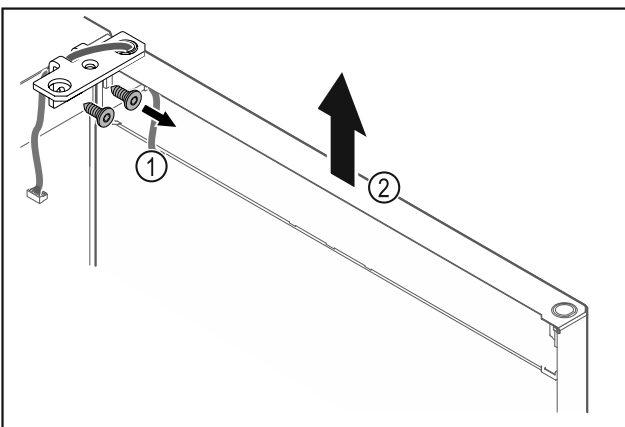

Fig. 15
- ▶ Unscrew the hinge Fig. 15 (1).
- ▶ Lift the door with the hinge straight up by Fig. 15 (2) roughly 200 mm (7.87 in) and take it off.